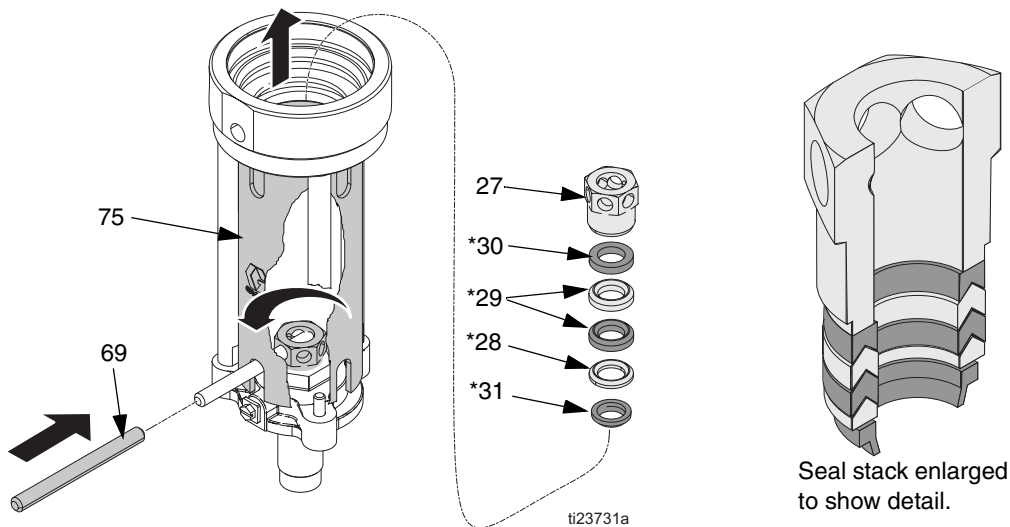

FIG. 25
12. Remove hex nut (27) from mounting flange (26). Remove female gland (30\*), 2 PTFE packings (29\*), male gland (28\*) and wiper (31\*). Inspect all parts for damage. See FIG. 25.